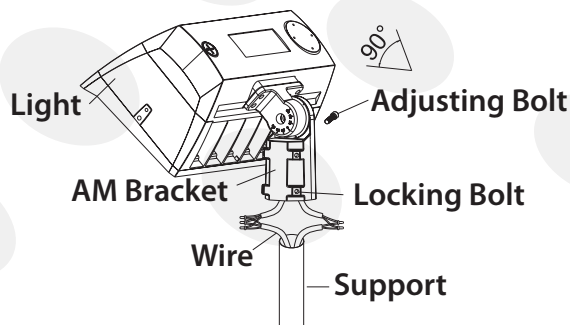

Figure 7
1. ADJUSTABLE FITTER MOUNTING (AM)
Step 1: Connect the wire correctly and put the wire into pole. Then fasten the locking bolts between slip fitter and the pole. (Figure 7)
Notice: Adjustable angle is $0^{\circ} \sim \pm 90^{\circ}$ (Figure 7)